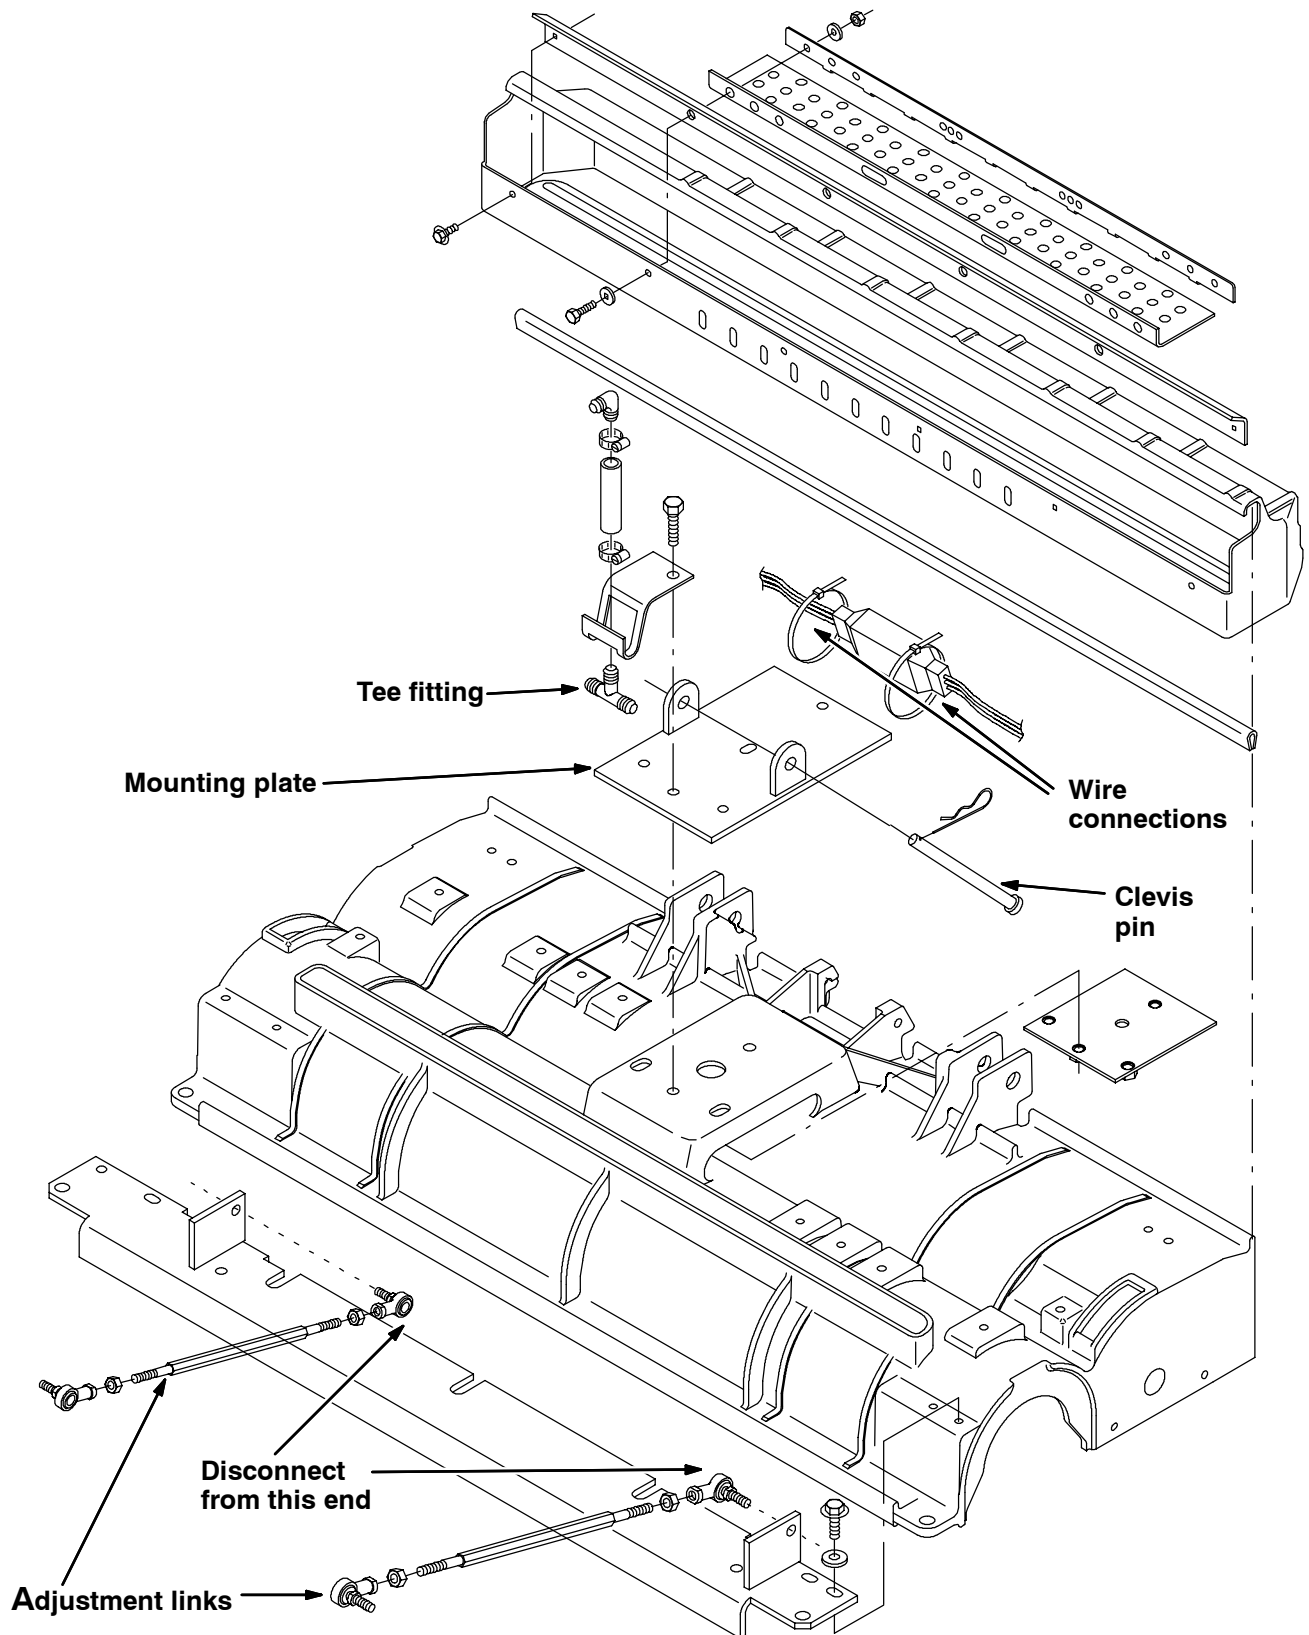

FIG. 1 - Cylindrical Brush Scrub Head Installation
(Refer to FIG. 1 and 2)
5. Disconnect scrub head adjustment links. (Refer to FIG. 1)
6. Remove the two clevis pins from the scrub head lift bracket. (Refer to FIG. 1)
7. Disconnect wire harness connections at the scrub brush motors. (Refer to FIG. 1)
8. Disconnect solution hoses from the tee fitting. (Refer to FIG. 1)
12. Connect the adjustment links. *(Refer to FIG. 1)*
13. Install the clevis pin through the scrub head lift bracket. *(Refer to FIG. 1)*
14. Connect wire harness connections. *(Refer to FIG. 1)*
15. Connect solution hoses to the tee fitting. *(Refer to FIG. 1)*